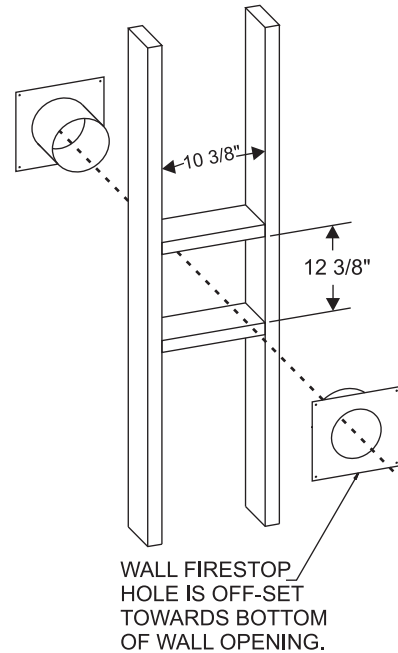

Figure 43
Cut an appropriate sized hole in the wall. **See Figure 43.** Position the firestop on the interior side of the wall for the hole.
**Attention:** Wall firestop hole is off-set towards bottom of wall opening. Secure with nails or screws. Continue the vent run through the firestop. **See Figure 43.**